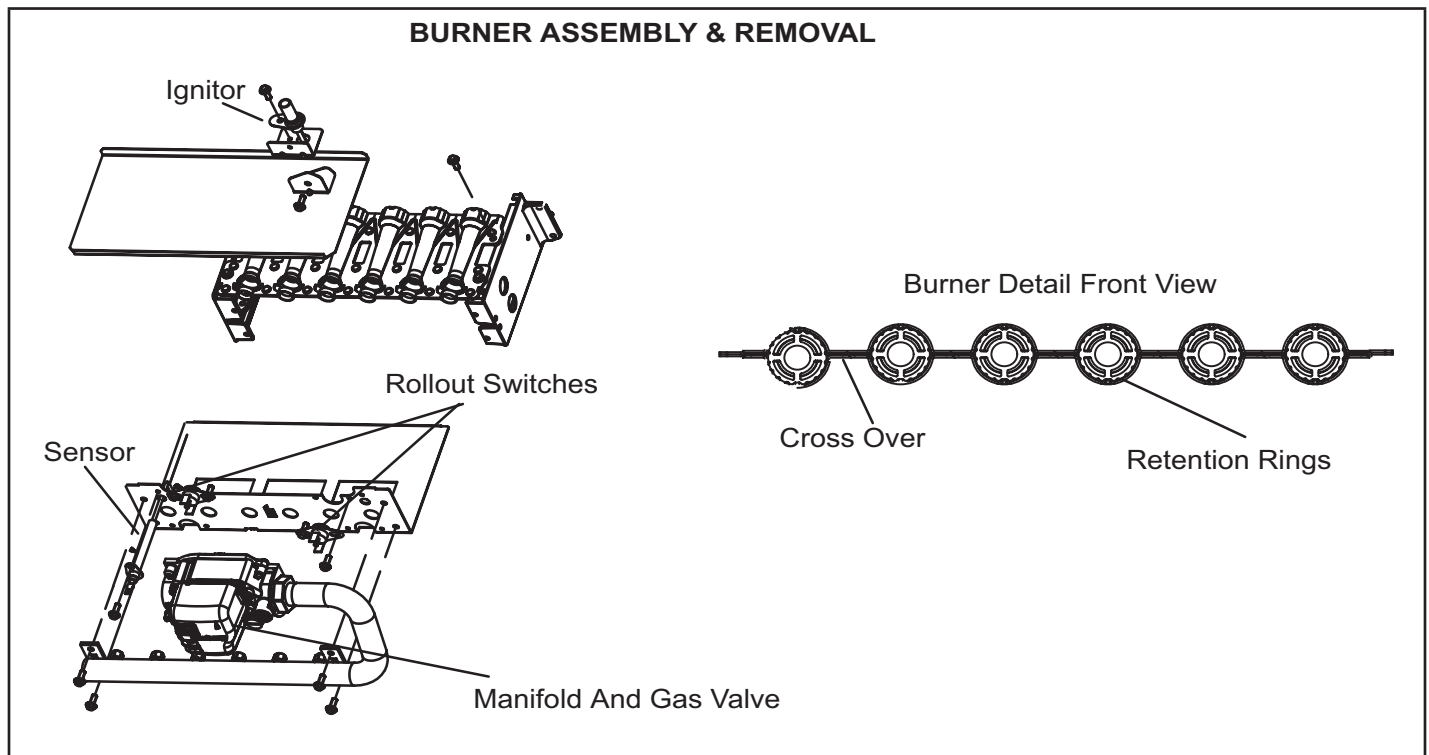

FIGURE 40
- 4 - To clean burners, run a vacuum cleaner with a soft brush attachment over the face of burners. Visually inspect inside the burners and crossovers for any blockage caused by foreign matter. Remove any blockage. FIGURE 40 shows burner detail.